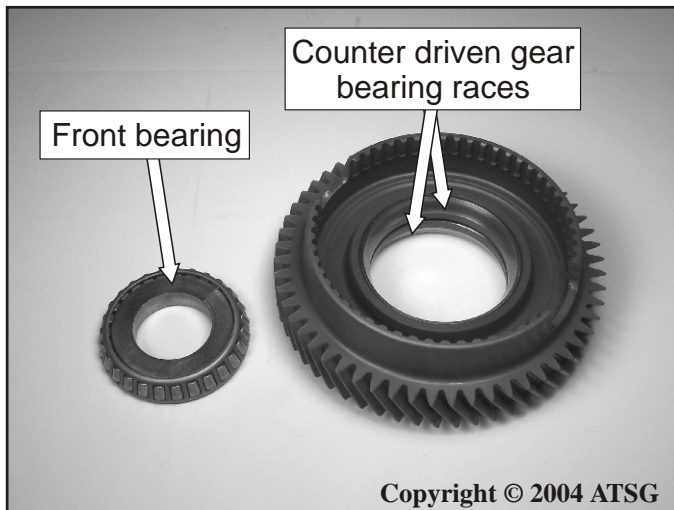

Figure 165
- 110. Inspect the counter driven gear races and front bearing as shown in Figure 165, and replace as necessary.